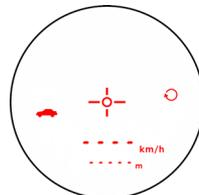

Figure 19
2. Press the  button until the Continuous Mode indicator appears. The display should look similar to Figure 19.